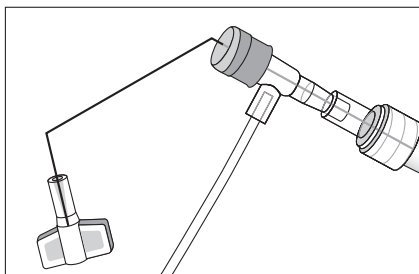

Figure 4
7. Kink proximal end of placement wire at side-port connector to minimize risk of placement wire exiting distal tip of catheter during insertion (refer to Figure 4).